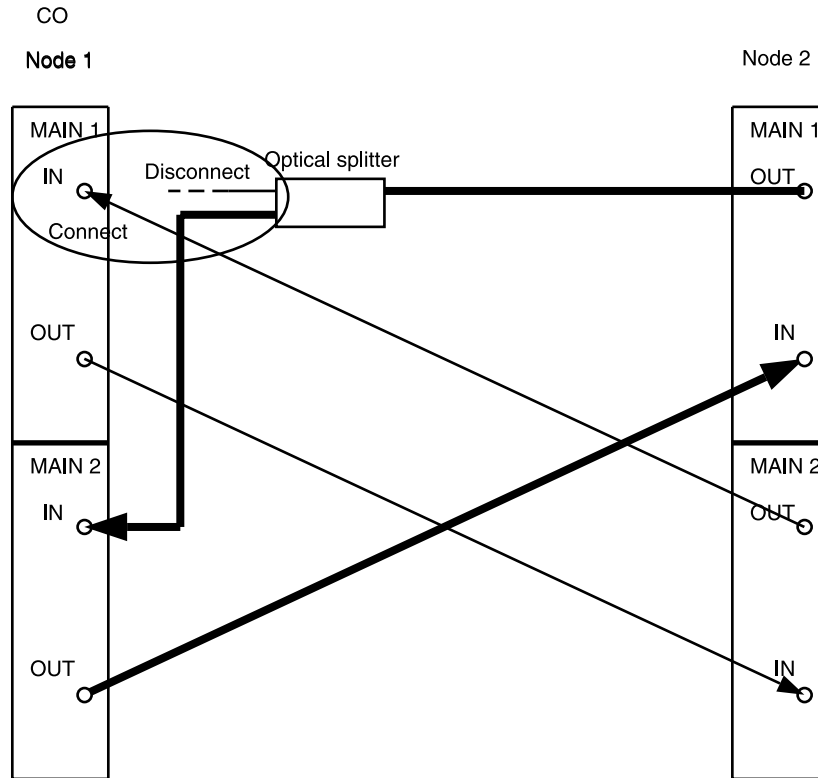

Figure 13 – DDM-2000 OC-3 Point-to-Point to Ring Upgrade
23. At Node 1, remove optical splitter output from **MAIN 1 IN** and connect optical fiber from Node 2 **MAIN 2(P) OUT** to Node 1 **MAIN 1 IN**. (See Figure 13.)